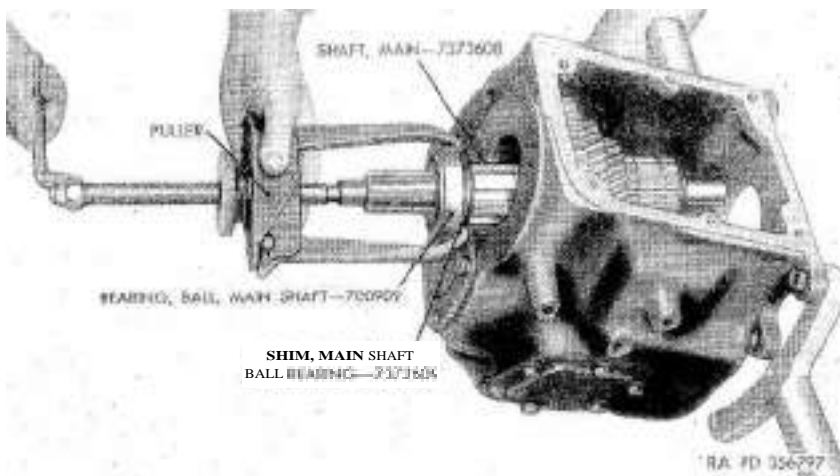

Figure 102. Removing main shaft ball bearing with puller.
- (2) Pull main shaft ball bearing from main shaft (fig. 102) . Wrap ball bearing in paper to protect it from abrasives until bearing is inspected.